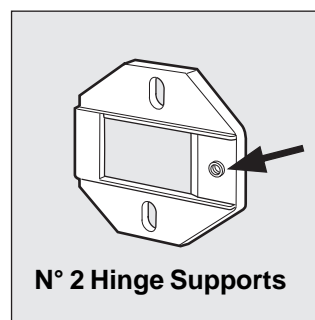

Fig. 9
- Mount the hinge supports onto the face of the machine, positioning the hole indicated by the arrow in Fig. 9 towards the inside of the face and using the type **C** screws.